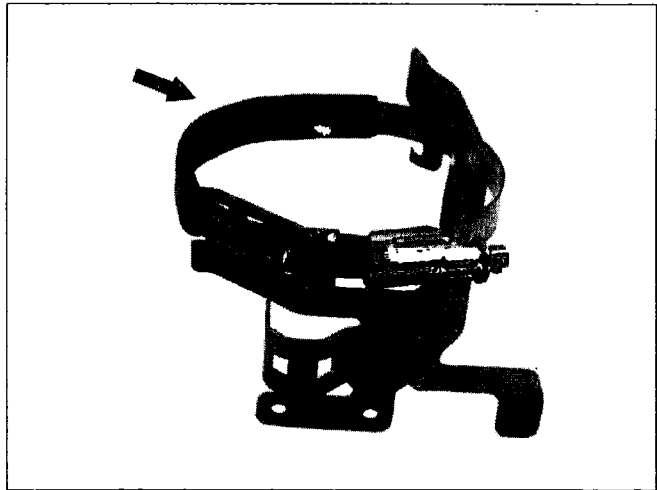

Figure 22
- Position bracket (A) on SBC hydraulic unit, reinstall self tapping screw (arrow) and **torque to 7 Nm**
21. Install clamp-on mounting bracket (Figure 22) if necessary due to broken self-tapping screw:
Ensure sheathing (arrow) on mounting bracket clamp is positioned as shown in Figure 22.